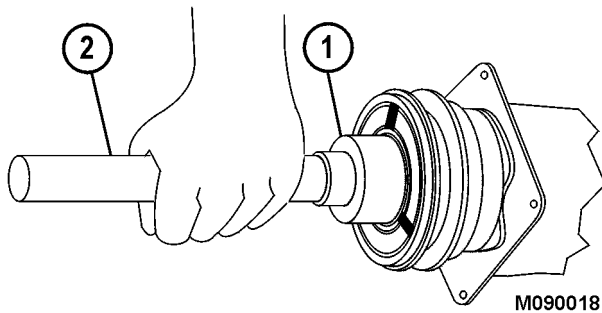

FIGURE 4-20.
1. Place the pulley assembly into position on the compressor. Use bearing installer (1, Figure 4-20), universal handle (2), and a hammer to lightly tap the pulley assembly onto the compressor until it seats. Use of the installer or the equivalent ensures that the force driving the bearing into position acts on the inner race of the bearing. Applying force to the outer race of the bearing will result in bearing damage.